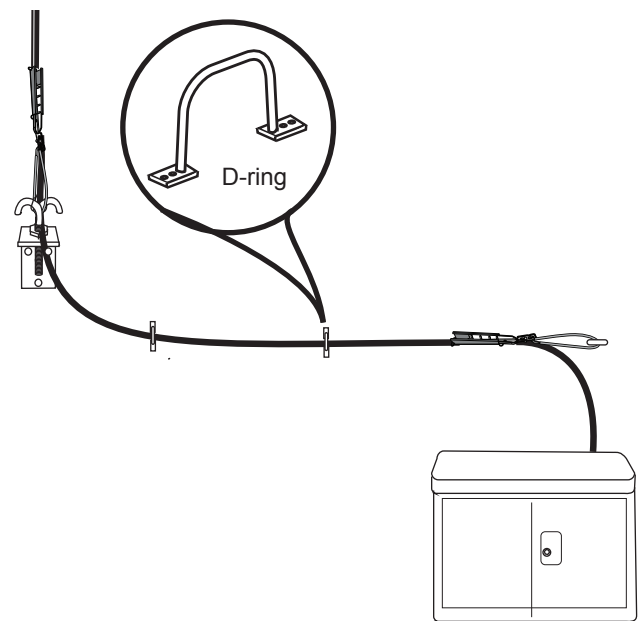

Figure 11
5.14 Run the balance of the cable assembly tail to the terminal/cabinet, placing D-rings for lateral support and using dead-end clamps to manage slack where appropriate (Figure 11)